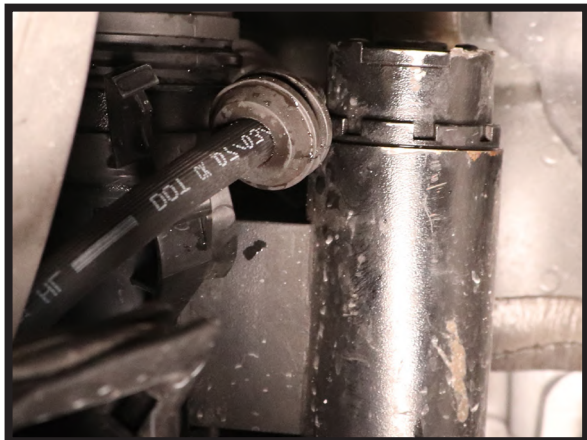

FIGURE 28
5. REROUTE AND CLIP ALL BRAKE/AIR LINES BACK INTO PLACE. (FIGURES 28, 29)